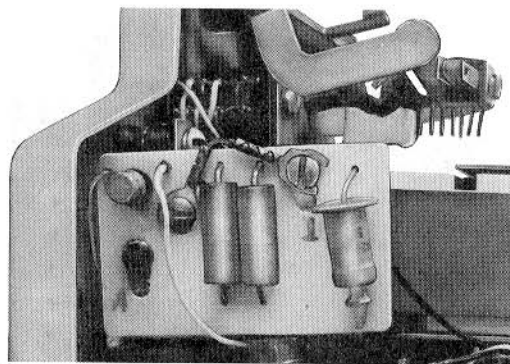

Fig. 11—Polarity Guard Position
3.11 Polarity Guard: When required with the 2851-type telephone set, install the adhesive backed 819041971 (P-90D197) guard assembly to the left-hand bracket in the position shown in Fig. 11.